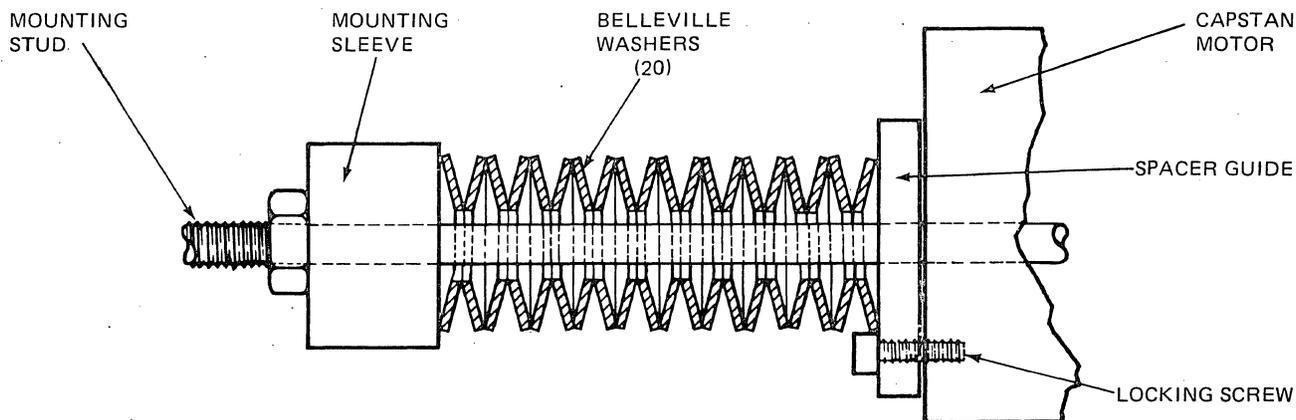

Figure 4-31. Capstan Mounting Assembly
- Capstan power cables (2) from TB15.
4. Tighten the spacer guides (2) against the motor casting. This helps prevent cocking the assembly during removal (see Figure 4-31).
5. Remove the motor mounting nuts (2) and both mounting sleeves.